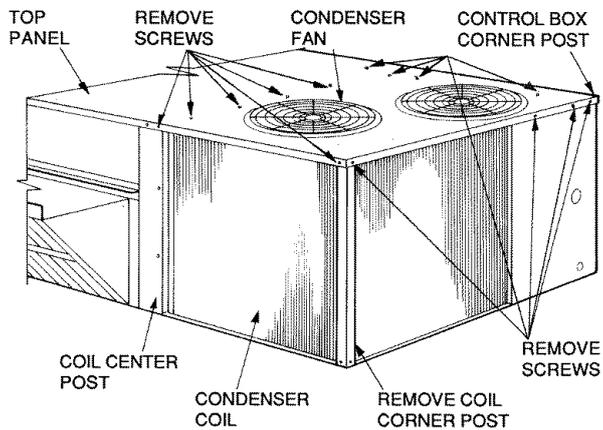
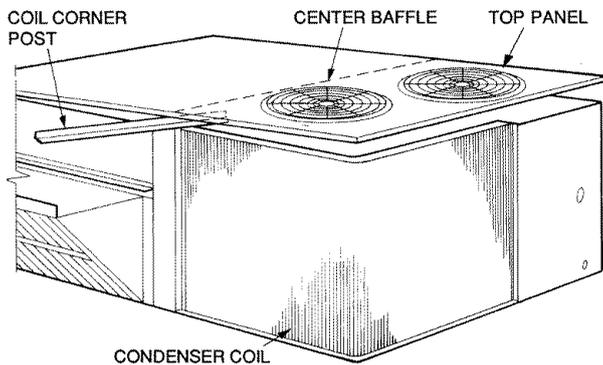

Fig. 52 — Cleaning Condenser Coil
Fig. 53 — Propping Up Top Panel
3. Remove condenser coil corner post. See Fig. 52. To hold top panel open, place coil corner post between top panel and center post. See Fig. 53.